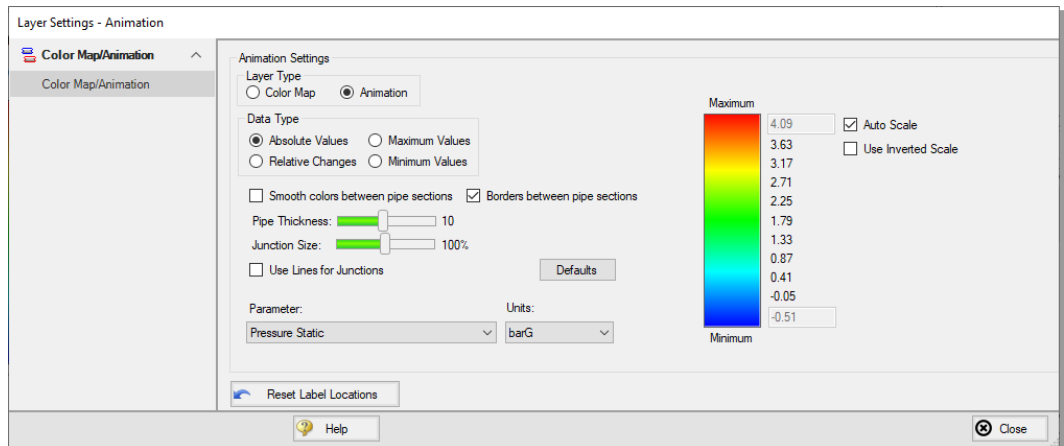

Figure 2.33 Workspace Layers provides an animation feature as an alternate way to view the transient results
- **Select Pressure Static as the parameter for the animation using units of barG.** The model setup for animating static pressure can be seen in Figure 2.33.